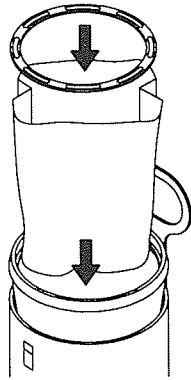

FIG. 1
2. OPEN UP THE PAPER BAG AND FIT INSIDE CLOTH FILTER (FIG. 1)